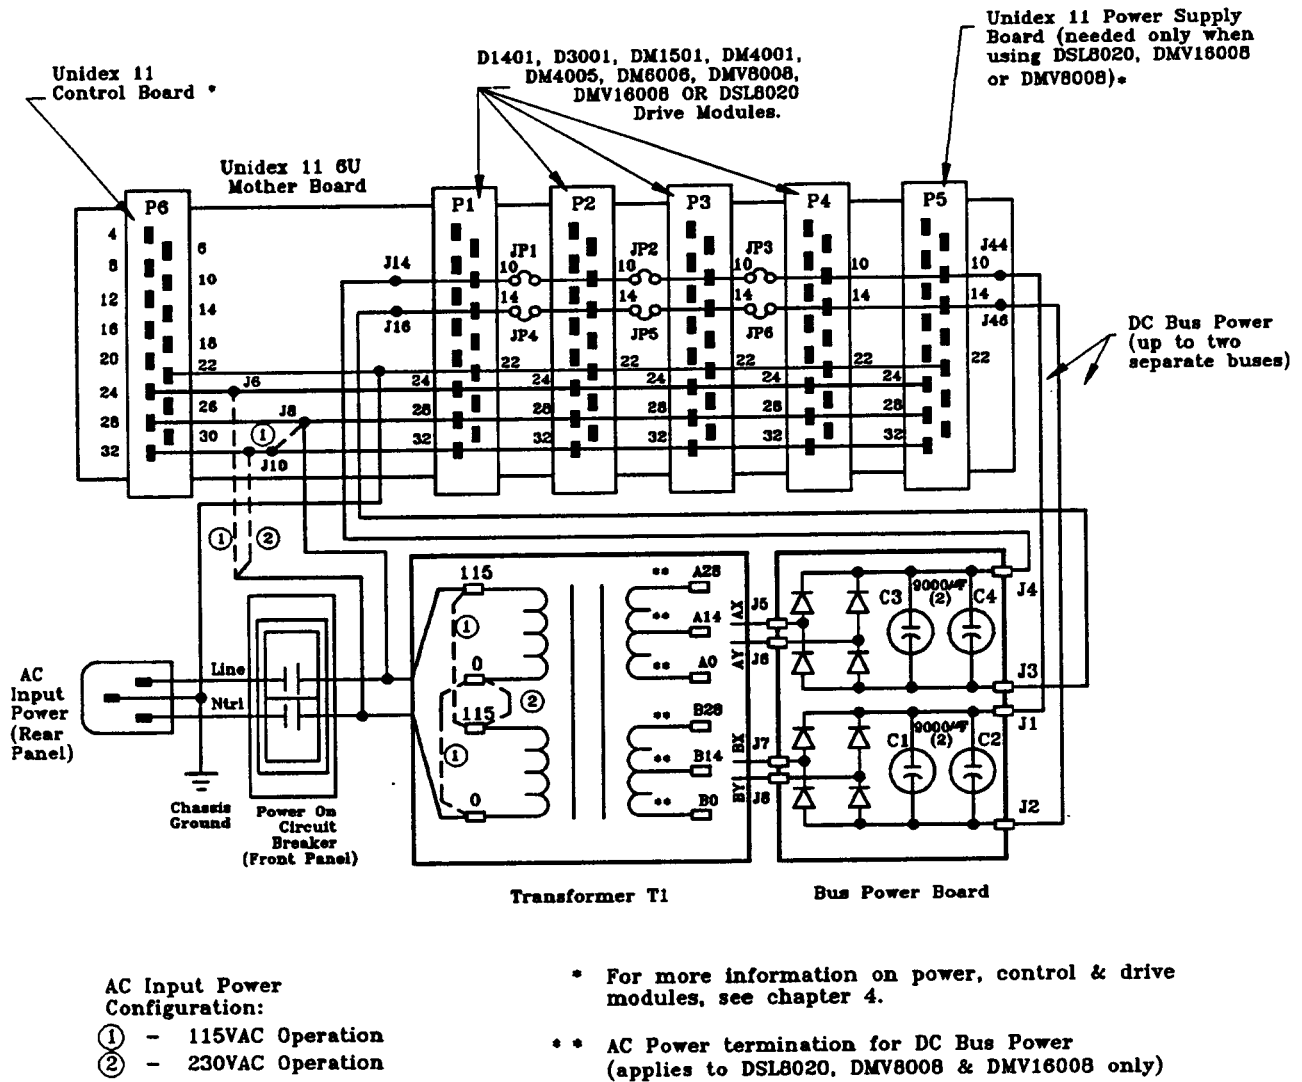
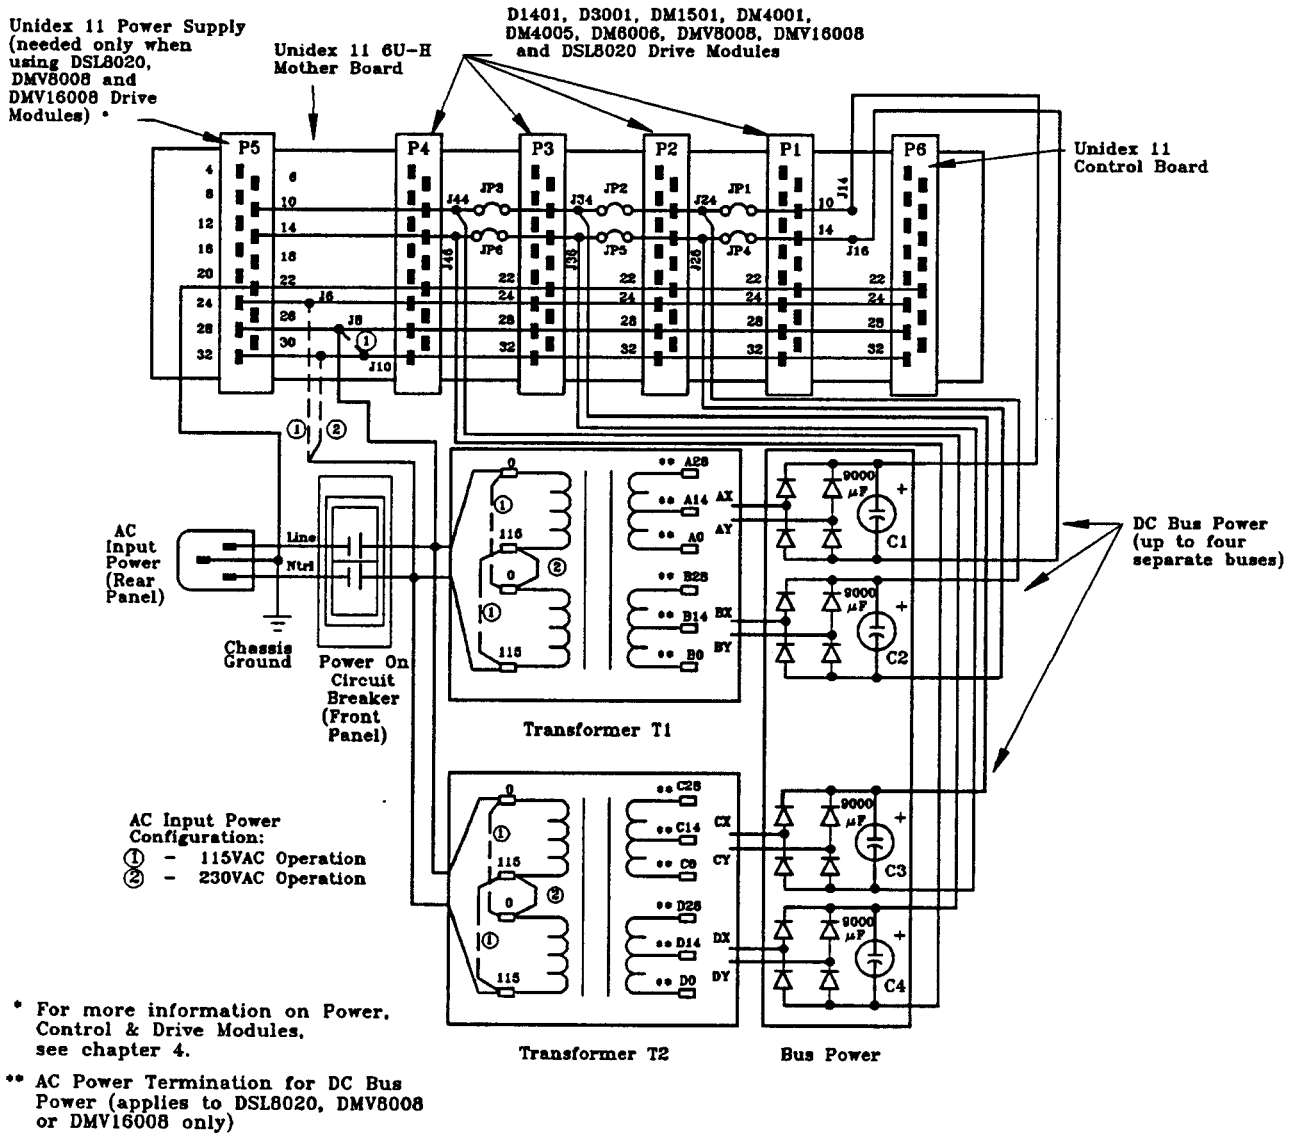
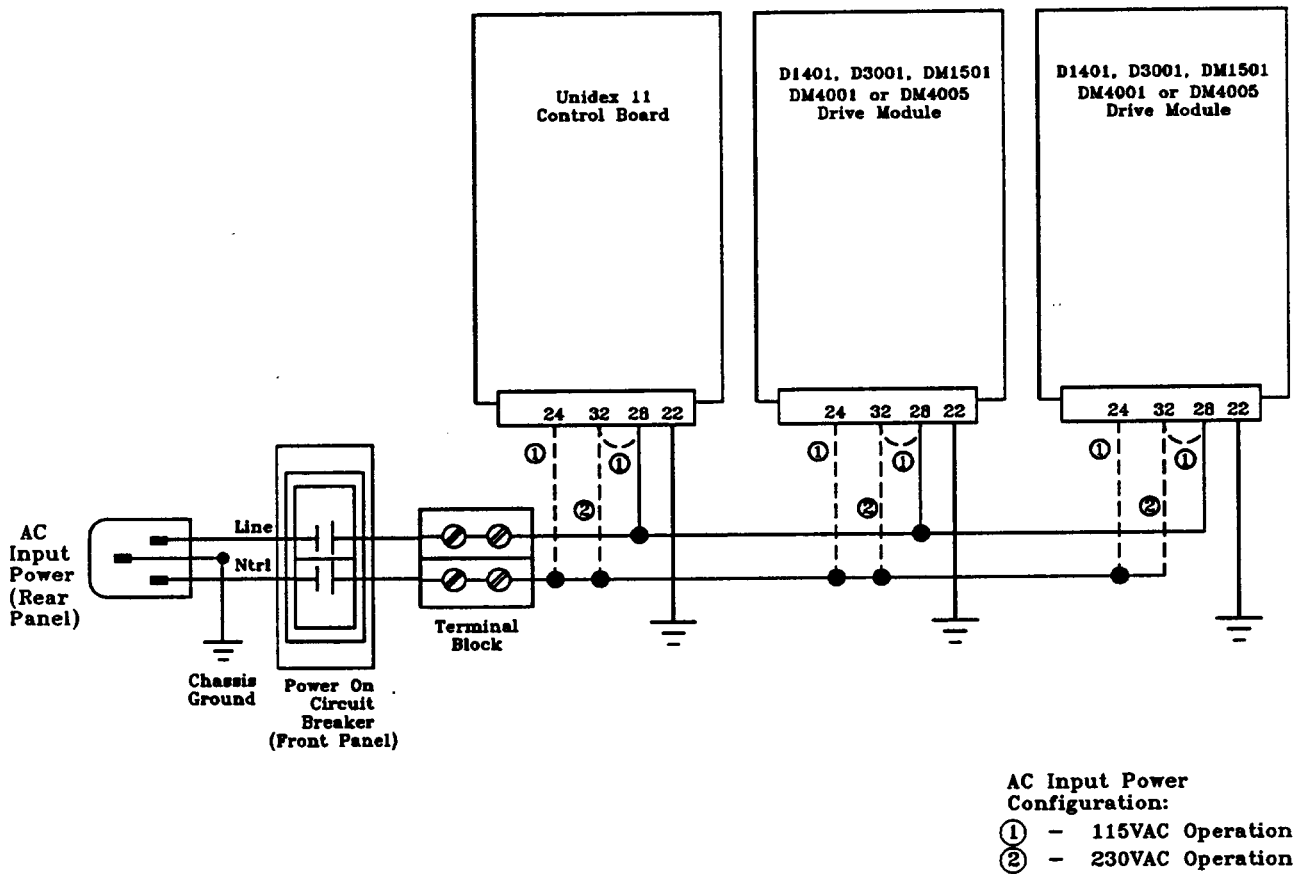

Figure 3-1: Simplified Wiring Diagram of U11S & U11R Chassis with Front Panel Removed (see Figure 3-4 for Outline)
Figure 3-2: Simplified Wiring Diagram of the U11H Chassis with Top Cover Removed (See Figure 3-5 for Outline)
Figure 3-3: Simplified Wiring Diagram of the U11M Chassis with Top Cover Removed (See Figure 3-6 for Outline)
A simplified wiring diagram of the U11S and U11R is shown in figure 3-1. An accompanying outline of these chassis with front panel removed is shown in figure 3-4. A simplified wiring diagram of the U11H chassis is shown in figure 3-2 with an accompanying outline shown in figure 3-5 (top cover removed). Finally, a simplified wiring diagram of the U11M chassis is shown in figure 3-3 with its outline shown in figure 3-6 (top cover removed).
The DC bus power supply for the U11S, U11R and U11H chassis (see figures 3-1 and 3-2) can be configured for a variety of DC voltage levels for use with the DMV8008, DMV16008 and DSL8020 drive modules. The possible DC bus voltage levels for a given chassis is as follows:
The secondary side of transformer T1 (and T2) provides the necessary AC voltage to be rectified to DC (see figures 3-1 and 3-2).
IMPORTANT NOTE: The drive module slots (P1 - P4, see figures 3-1, 3-2, 3-4 and 3-5) are electrically interconnected so that damage will *NOT* occur to a given module or motor (if, for example, a stepping drive module is inadvertently plugged into a slot setup for DC servo operation). Nevertheless, *special care should be taken when removing the drive modules from the Unidex 11 chassis.*
* See figure 3-2 for more information.